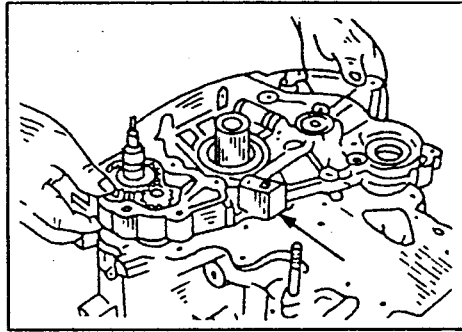

Fig. 1.11. — Removal of the front housing with the balance shaft. A screwdriver can be inserted at the arrow point to separate the housing.
- Remove the front housing together with the balance shaft. A screwdriver can be inserted into the notch shown by the arrow in Fig. 1.11 to prise off the assembly. Take care not to damage the sealing faces.